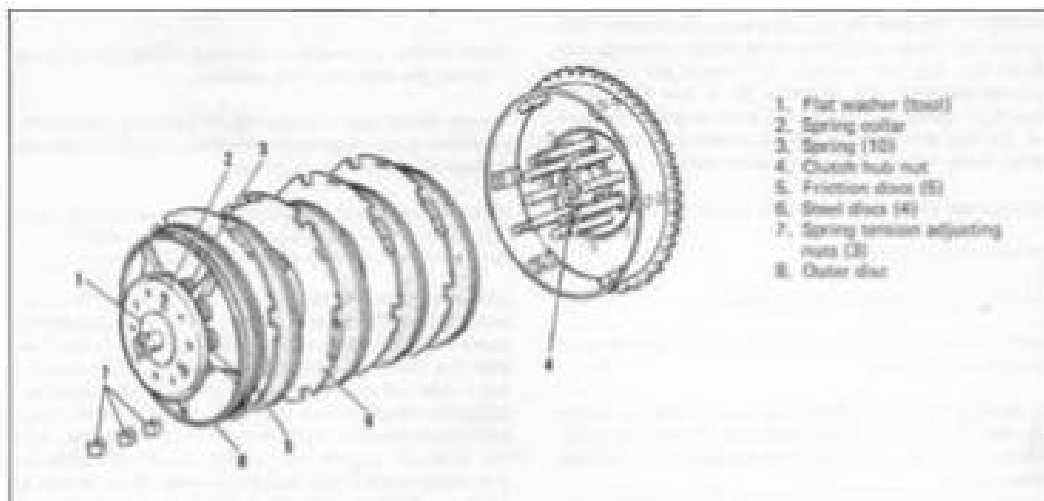

Figure 4-3. Removing Clutch
A new clutch is assembled so the distance from inner edge of spring collar (2, Figure 4-3) to the surface of the outer disc (8) is exactly 1-1/32 in. If springs are compressed to this distance is 7/8 in. or less, the clutch probably cannot be fully disengaged. Check this dimension at several points to make sure that releasing disc is parallel with plates.
Remove push rod adjusting screw lock nut (1). Place a flat washer about 1/8 in. thick with 1-3/4 in. outside diameter and 3/8 in. hole over the adjusting screw (2). Replace lock nut and turn down until three spring tension adjusting nuts (3) are free. The nuts may then be removed and the spring collar-spring-outer disc assembly (4, 5 and 6) may be slipped off clutch hub dowels and studs as shown in figure 4-3. Do not disassemble these parts unless necessary for spring, spring collar or outer disc replacement.